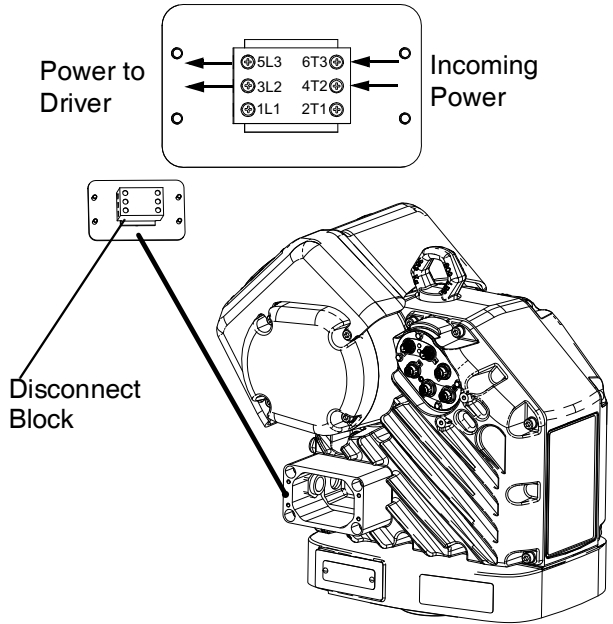

FIG. 5: Terminal Connections
NOTE: Inside the junction box, power wires to the driver are connected to terminals 3L2 and 5L3 on the disconnect block. Refer to **Figure 5** for the terminal locations.
- Refer to **Figure 5** and connect the wires from the power cord into terminals 4T2 and 6T3. Each wire can be connected to either terminal.